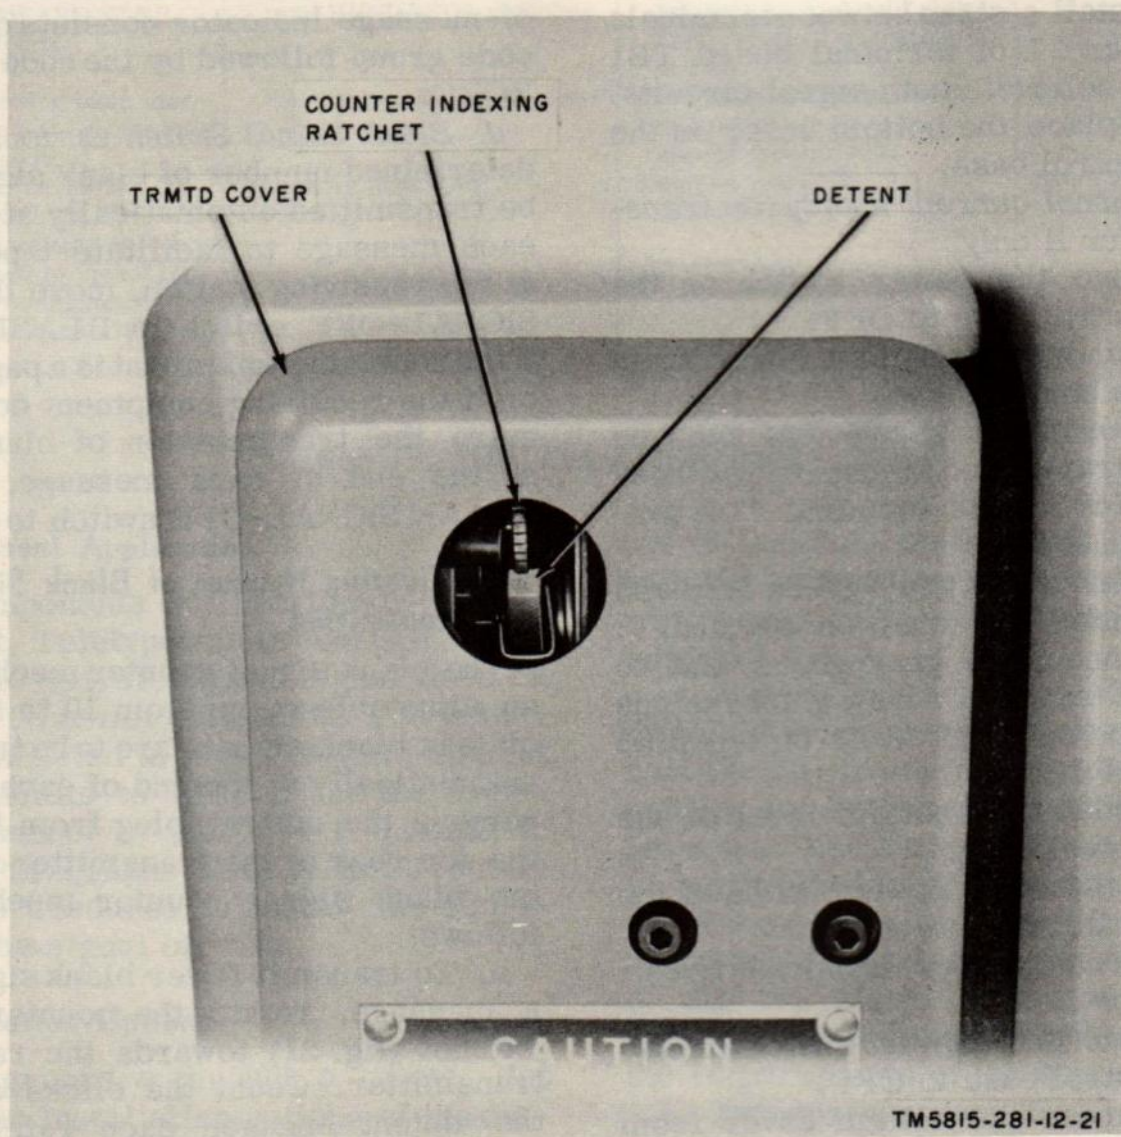

Figure 21. Blank signal counter mechanism adjustment points.
a. To transmit fewer blank signals after a message, rotate the counter indexing ratchet (fig. 21) towards the rear of the transmitter. Count the clicks caused as the detent engages each ratchet tooth. Each click reduces by two the number of blanks that will be transmitted. Reduce the number as desired.